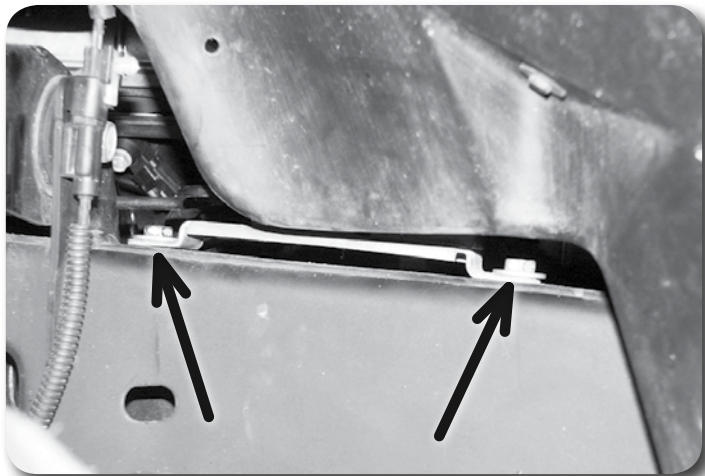

Figure 8
19. Remove the two bolts mounting the brake line junction block (located just behind the upper control arm) to the top of the driver's side frame rail **Figure 8**.